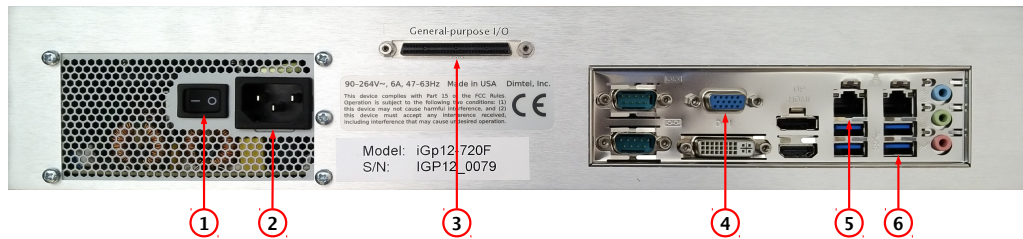

Figure 3: Rear panel features
6. Connect a USB keyboard (Fig. 3, item 4);
7. Connect a video monitor (Fig. 3, item 5);
Setup program is included in the IOC for configuring the important features of the iGp12-720F. The program can be executed locally or remotely. For local execution one must first connect a keyboard (Fig. 3, item 4) and a video monitor (Fig. 3, item 5) to the system. For remote setup, use `ssh` after system bootup to establish connection. In both setup methods the user must login as `root` (initial password is supplied with the system). If the newly received iGp12-720F must be configured remotely (when, for example, a keyboard or a monitor is not available), such configuration can be performed using a